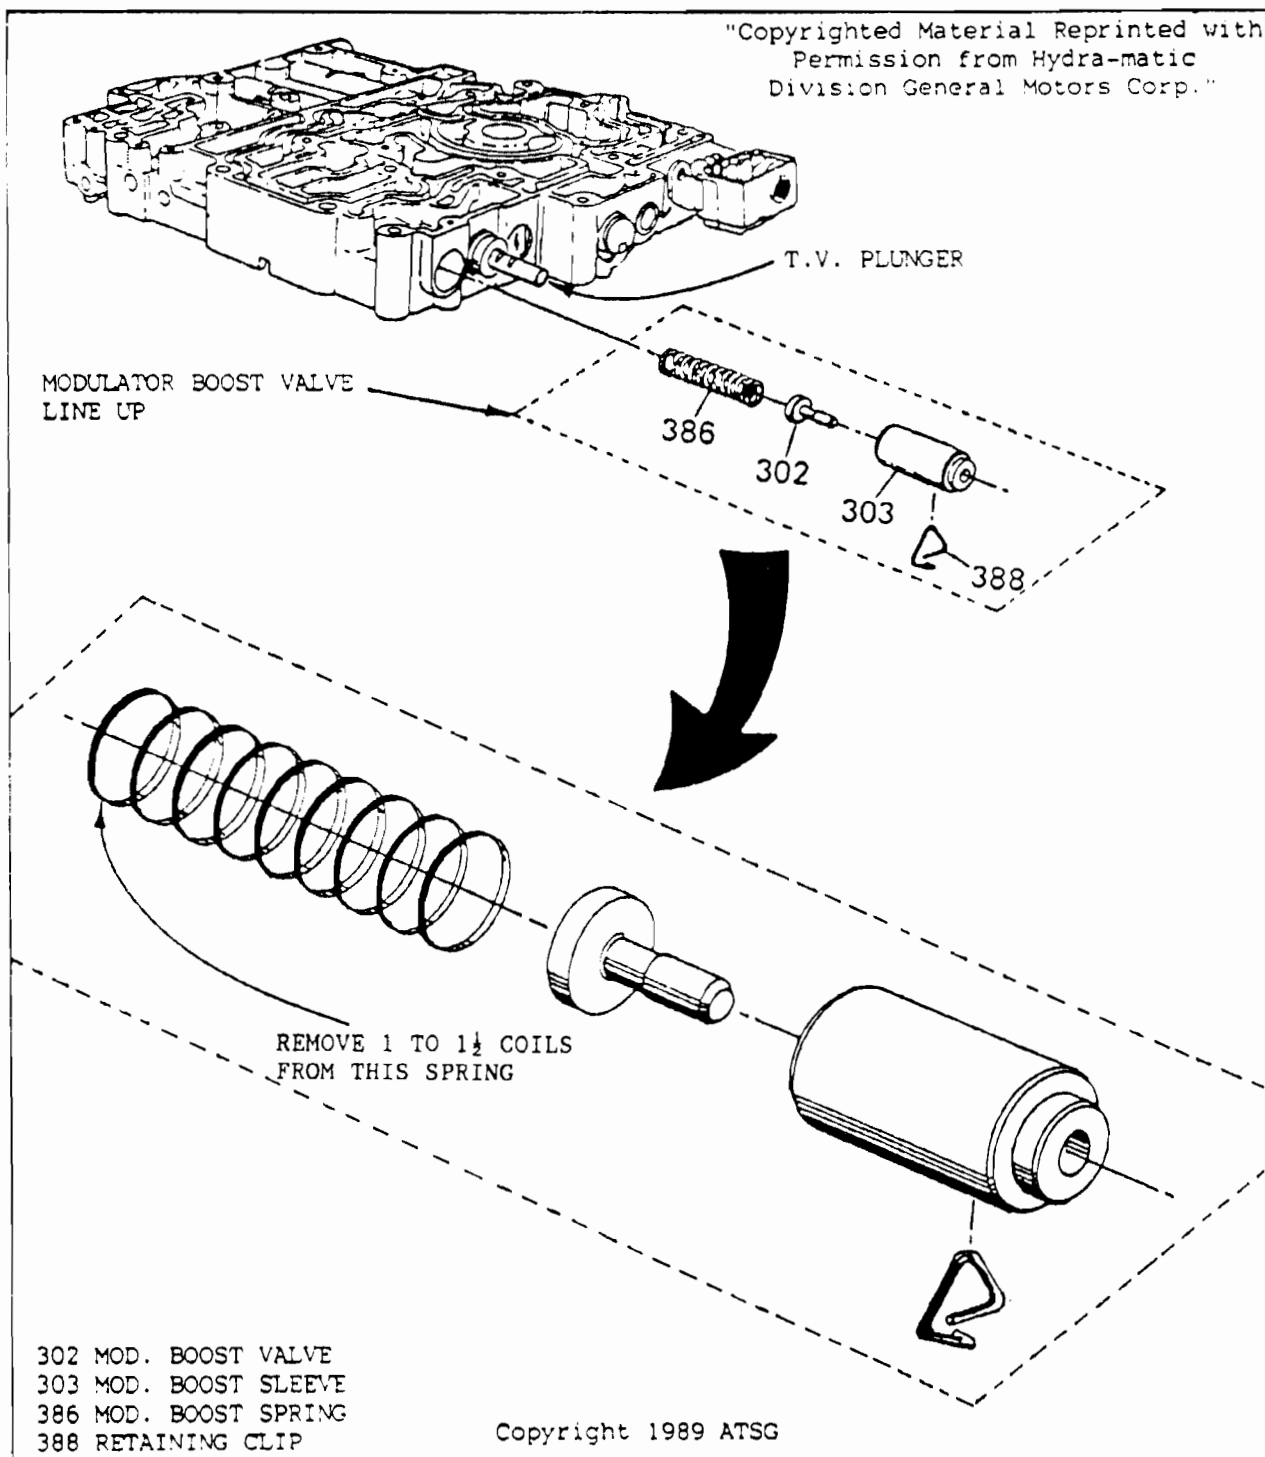

Figure 18
- CORRECTION:** Shorten the modulator boost valve spring by $1/4"$, or approximately 1 to $1\frac{1}{4}$ coils. The modulator boost valve spring is located in the pressure regulator line up, which is directly next to the T.V. plunger in the valve body (See Figure 18). This will allow line pressure to rise at less of a throttle opening and greatly increase 2nd clutch durability. This modification should be done on "ALL" THM 440-T4 transaxles during the rebuilding process.